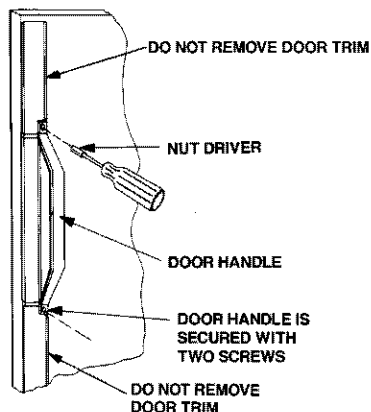

FIGURE 3
2. Remove the upper and lower door handle screws. See Figure 3.